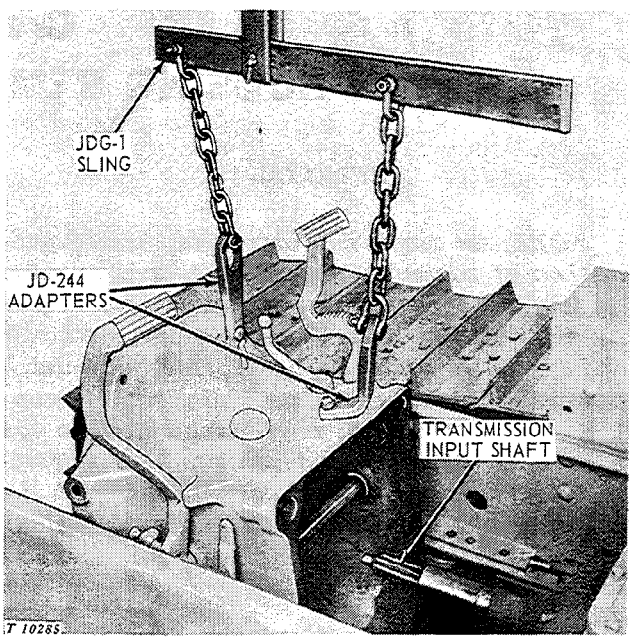

Fig. 20-10-4-Removing Clutch Housing
13. Install two JD-244 adapter tools in front and rear of clutch housing (Fig. 20-10-4).
With the aid of hoist, sling and adapters shown in Fig. 20-10-4, slide clutch housing onto transmission dowels and input shaft. Be sure that throw-out bearing is correctly positioned.